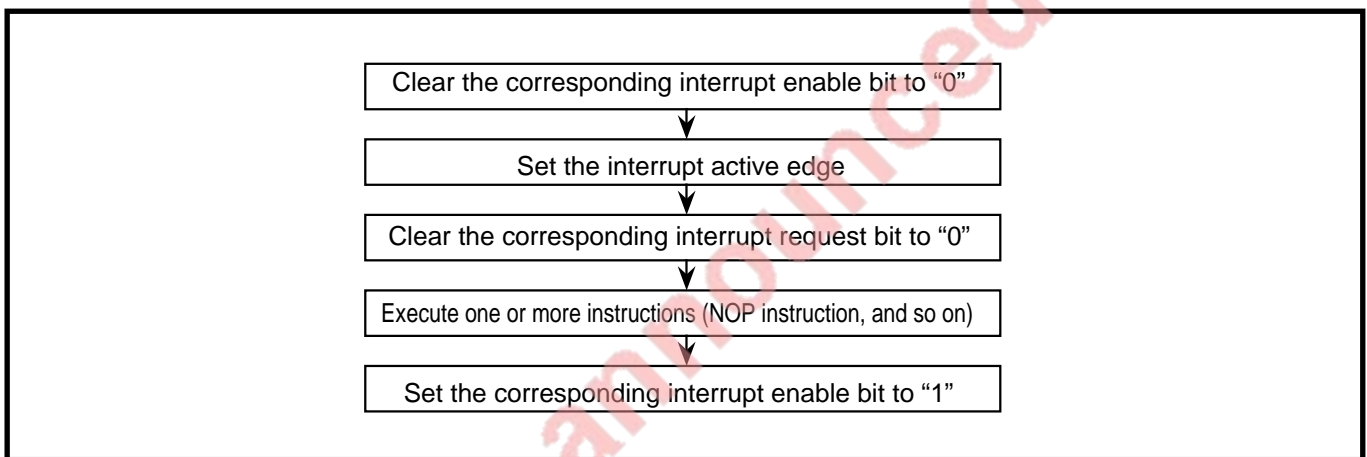

Fig. 1.11.7 Example of register setting
- (3) An interrupt request bit can be cleared to "0" by software, but is still remained at the value precedent to a change immediately after execution of the clear instruction. For this reason, when executing the BBC or BBS instruction after changing an interrupt request bit, first execute the interrupt request bit change instruction and then execute the BBC or BBS instruction after one instruction or more.
- (4) When the detection edge of the INT interrupt or that of the CNTR interrupt is switched, the corresponding interrupt request bit may be set to "1." Accordingly, perform setting referring to the register setting example shown in Figure 1.11.7.